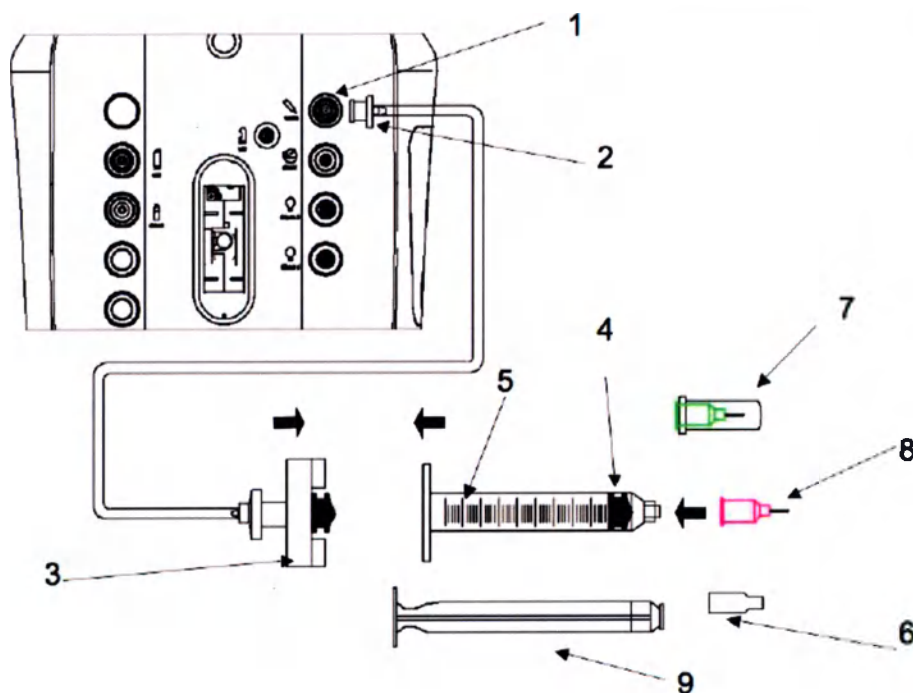

Figure 4.21. Viscous Fluid Extraction Setup.
3. Remove the syringe cap (item 6 of Figure 4.21). (Must be done before step 4.)
5. Connect the syringe coupler of the Viscous Fluid tubing to the empty syringe. Twist the coupler to lock it securely to the syringe. (Refer to Figure 4.21.)
7. Remove the cannula cover (8) before use.